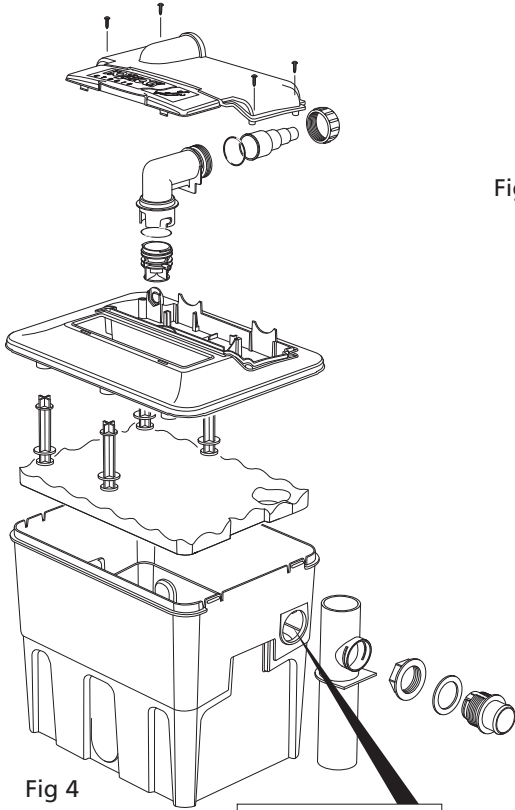

Fig 4
1.4 The filter outlet connector and overflow moulding (2 off each on Ecoel 10000) should be secured to the side of the vessel. (See Fig 4) The outlet hose (if fitted) should be secured in the same way as the inlet hose. Avoid kinks and bends, and keep hose runs as short as possible (preferably less than 1m) to minimize flow restrictions.